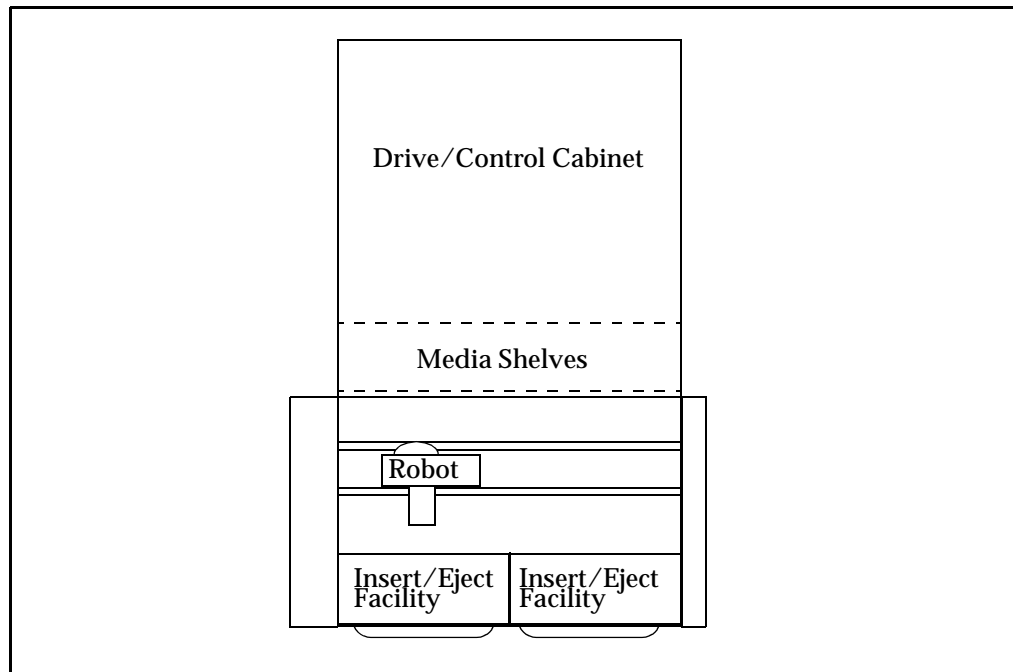

Figure 2-1 AML/J Example Configuration
- Figure 2-1** AML/J Example Configuration 2-3
The EMASS Automated Media Library (AML) is a fully automated, robotic media library that offers an enterprise solution to data management and backup. An example of an AML/J configuration is shown in Figure 2-1.